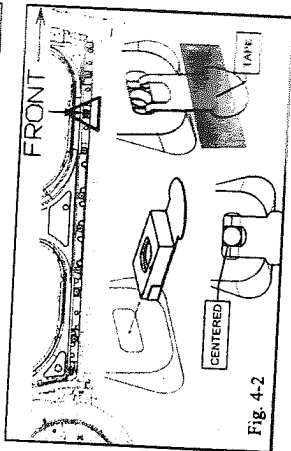

Fig. 4-2
- (b) Insert the M6 Wakai nut (3) (with the tab facing down) at the front slot location (Fig. 4-2).
- (c) Bend the tab flat against the vehicle rocker ensuring the hole is centered and apply a piece of masking tape to the tab to keep it in position during install (Fig. 4-2).